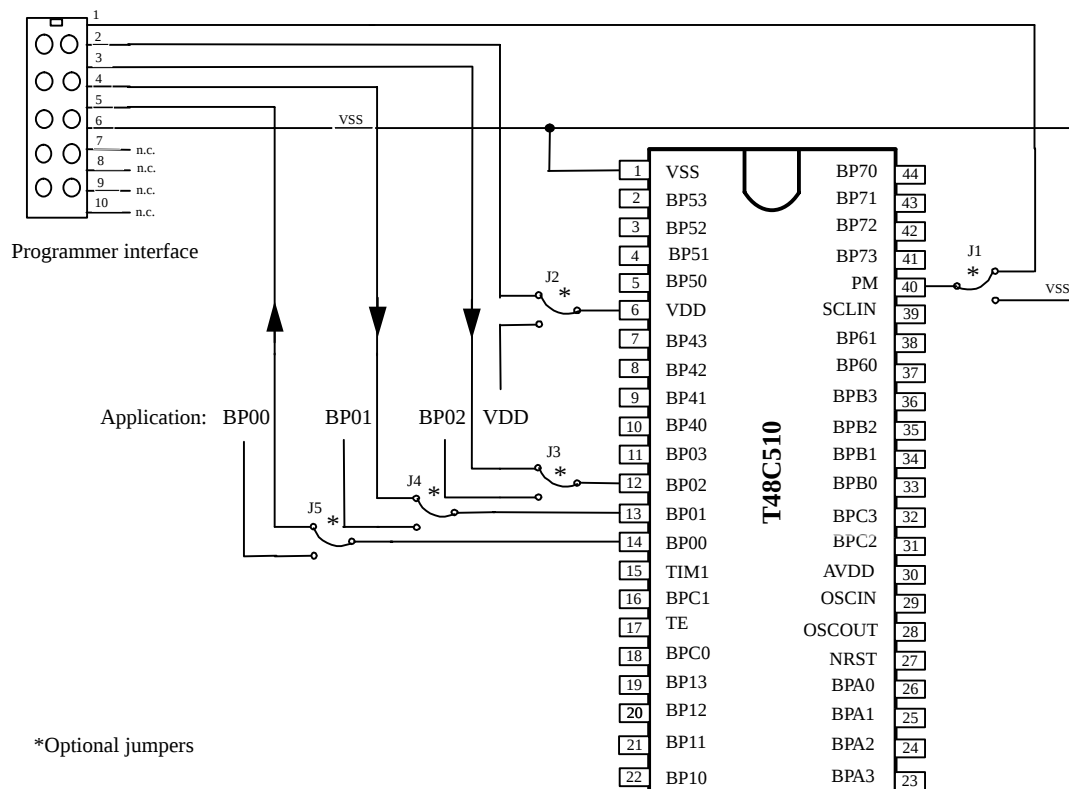

Figure 47. In-system programming
To accommodate the application program and the associated hardware option configuration, the T48C510 is equipped with 2 on-chip EEPROM memory blocks. These are written via a 6-signal Target Programmer Interface (TPI), comprising of 2 power lines (VDD and VSS), a Programm Mode signal (PM) and 3 data lines which are multiplexed onto 3 of the T48C510 functional pins – BP00, BP01 and BP02 (see figure 47). For setting up the required hardware options and downloading these along with the application program into the T48C510, the customer can be supplied with a dedicated PC based programmer software operating under Windows95/98 or NT and an In Circuit Programmer unit (ICP). The ICP is connected to the PC via a standard PC serial interface port and to the target device or application board (for in-system programming) via the TPI flat band cable.
For "in-system programming", the application circuit board must be fitted with a 10-pin male connector to accommodate the TPI connector. To ensure conflict-free access to the target T48C510 TPI related Pins (BP00, BP01, BP02 and PM) it is recommended that these are equipped with jumpers (J5, J4, J3 and J1) to avoid signal contention with other on board drivers sources. ( see figure 47). However, if these can be overdriven, or if the Port 0 is not used in the application, then the jumpers can be omitted or replaced by isolating resistors. Prior to connecting the TPI, all other application power supply sources should be disconnected from the application circuit board. Should